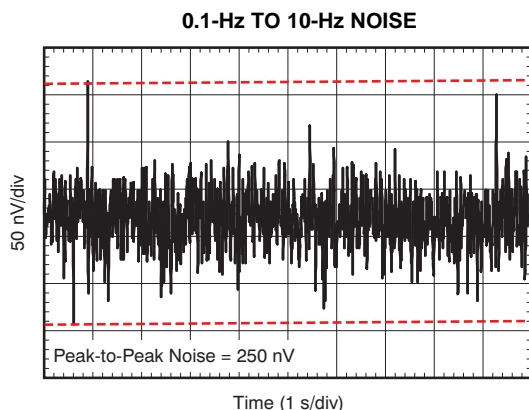

Figure 5.
0.1-Hz to 10-Hz Noise	Figure 5